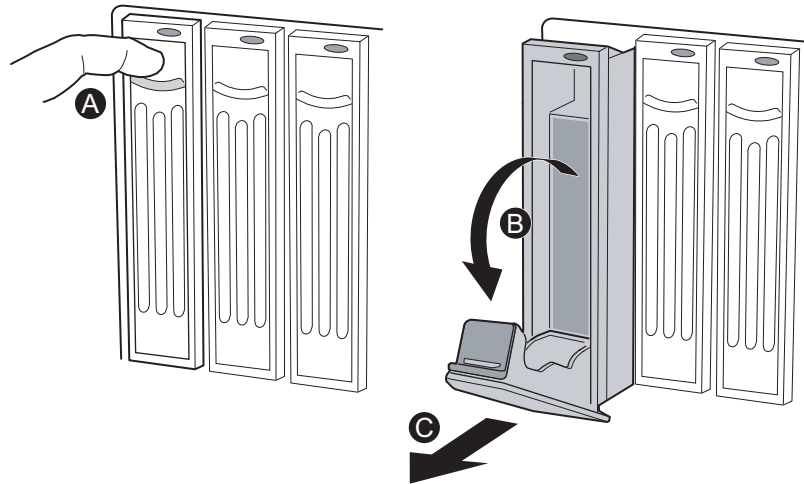

Figure 2. Unseat Hard Disk Drives and Hard Disk Drive Carriers
- A. Pressing down on the hard disk drive handle release mechanisms, unlatch the handle on the hard disk drives and hard disk drive carriers. See Figure 2.
- B. Rotate the hard disk drive and hard disk drive carrier handles downward. See Figure 2.
- C. Slide the hard disk drives and hard disk drive carriers at least halfway out of the hard disk drive bays. See Figure 2. It is not necessary to completely remove the hard disk drives from the bays.